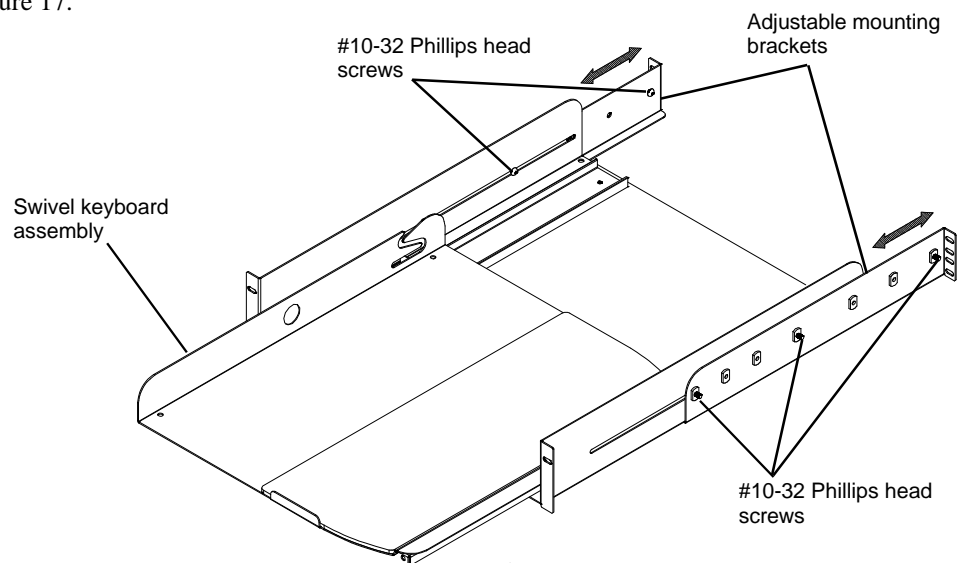

Figure 17
1. Before installing the Swivel Keyboard Drawer, adjust the mounting brackets to the proper length. To do this, loosen or remove the #10-32 phillips head screws (3 per side). After determining the proper length, re-install and/or tighten the screws. See figure 17.